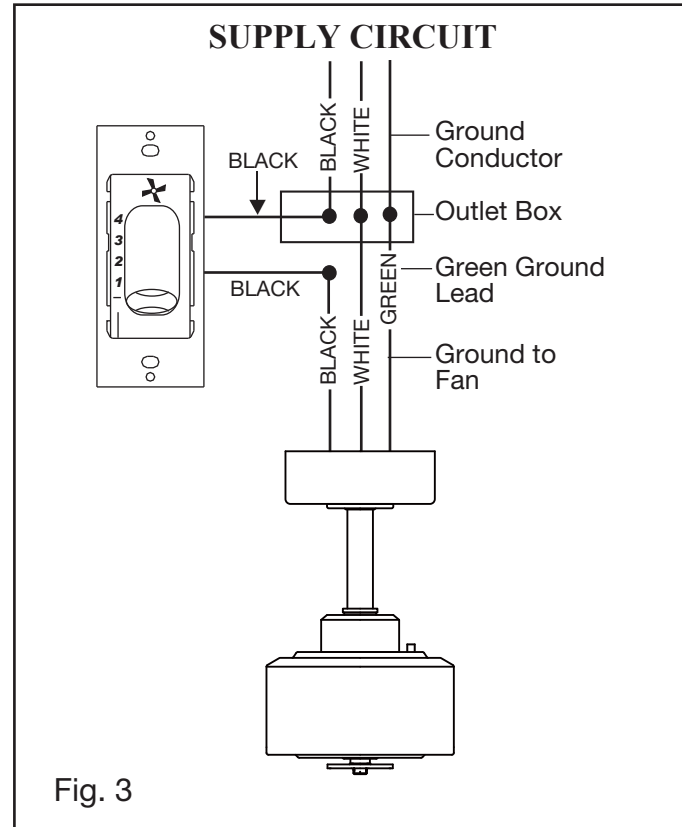

Fig. 3
- 6 Slip the yoke cover, trim ring and canopy onto the downrod. (Fig. 3)
- 8 Feed wires through holes in rubber ball moisture cap and slide cap down over top of ball. (Fig. 3)
b. Connecting the wires from the wall switch to the wires from the wall outlet box. (Fig. 3 & 4)
A DOWNWARD airflow creates a cooling effect as shown in Figure 3. This allows you to set your air conditioner on a warmer setting without affecting your comfort.